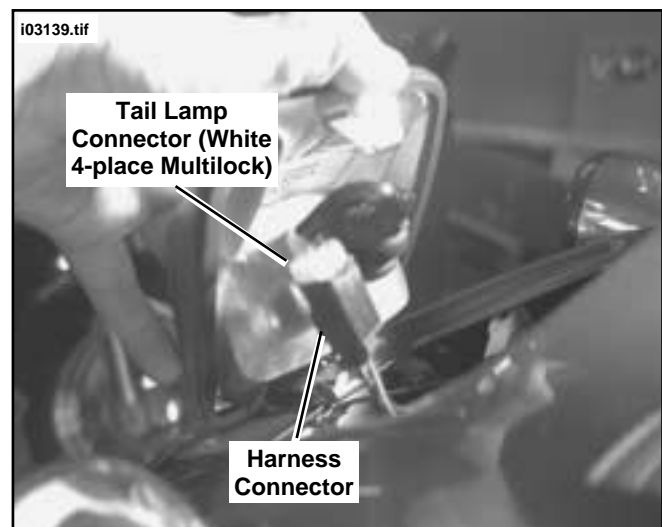

Figure 14. Connect Tail Lamp to Harness
23. See Figure 14. Connect tail lamp connector (White, 4-place) to harness connector (Black, 4-place).